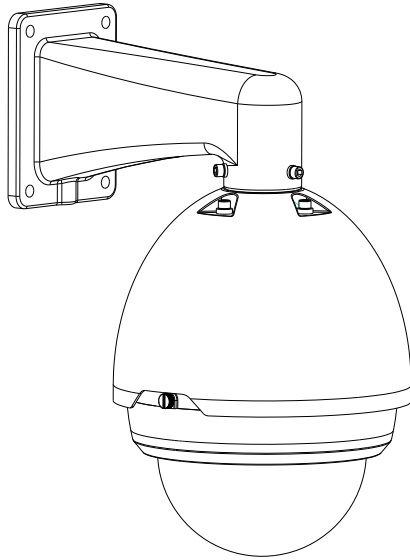

Figure 3-3
2). Install the speed dome in the bracket. Please refer to chapter 1.3 for detailed installation information. See Figure 3-3.